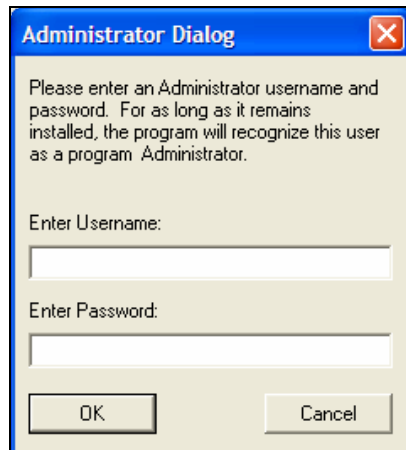

Figure 9 Administrator Dialog Box
3. The **Administrator Dialog** box will open (Figure 9).